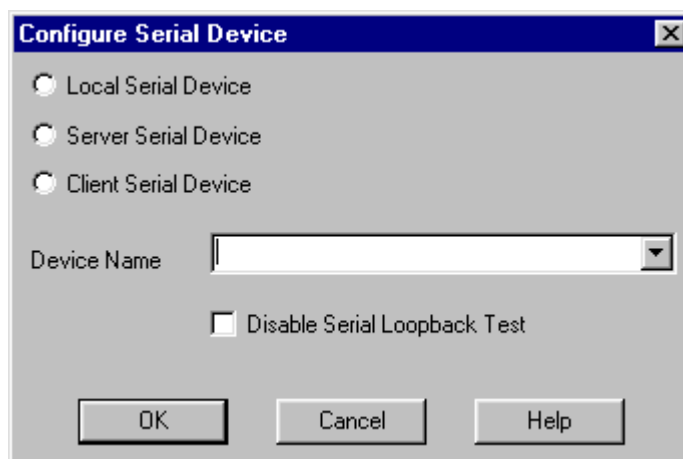

Figure 14. Configure Serial Device Dialog Box
2. Enter the host name or IP address of the serial device in the Device Name field (see Figure 14).